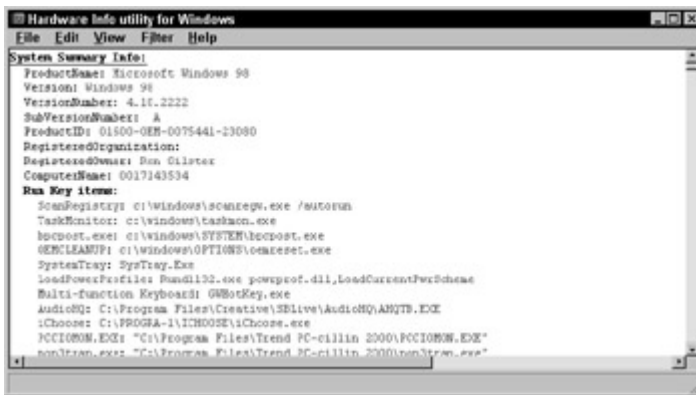

Figure 20-4: The HWINFO command displays the current configuration and status of a PC's hardware.
- 1 **HWINFO.EXE:** This command line utility opens a window that displays about everything you'd ever want to know about the hardware configuration and utilization of your PC. To execute this command, type **HWINFO.EXE /UI** in the Start menu Run box. Figure 20-4 shows the display from the HWINFO command.